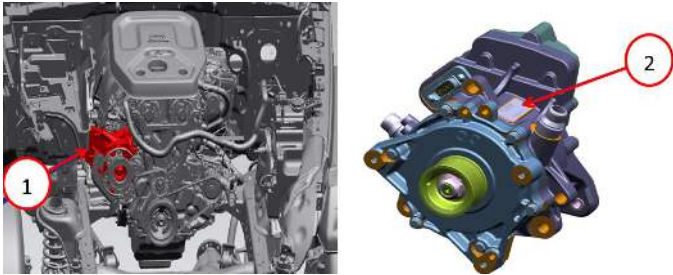

Fig. 1
- Locate the MGU label Fig. 1.